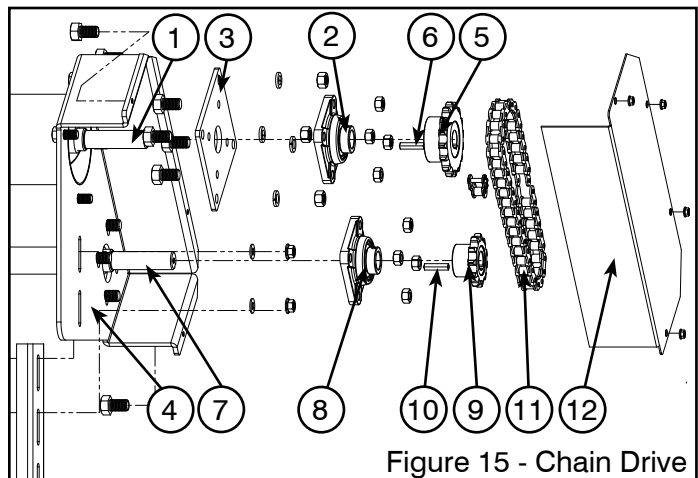

Figure 15 - Chain Drive
3. Slide the auger shaft (1, Fig. 15) into the auger tube.
4. Insert the auger bearing (2, Fig. 15) into the bearing housing (3, Fig. 15) and slide onto the end of the auger shaft. Secure the bearing housing to mounting plate (4, Fig. 15) with four $\frac{7}{16}$ " x $1\frac{1}{2}$ " hex bolts.
5. Slide the auger sprocket (5, Fig. 15) over the end of the auger shaft. Insert key (6, Fig. 15) into keyway. Tighten set screws on auger sprocket hub.
6. Slide the drive shaft (7, Fig. 15) through the opening in the mounting plate. Assemble the bearing and bearing housing (8, Fig. 15) and slide over the end of the drive shaft. Secure the bearing housing to the mounting plate with four $\frac{7}{16}$ " x $1\frac{1}{2}$ " hex bolts.
7. Slide the drive sprocket (9, Fig. 15) over the end of the drive shaft. Insert key (10, Fig. 15) into keyway. Tighten set screws on drive sprocket hub.
8. Place the chain (11, Fig. 15) on the sprockets. Tighten the chain by loosening the drive bearing housing mounting bolts and pulling down on the drive shaft. Once the chain is properly adjusted, tighten the bolts.
9. Replace the chain drive cover (12, Fig. 15).